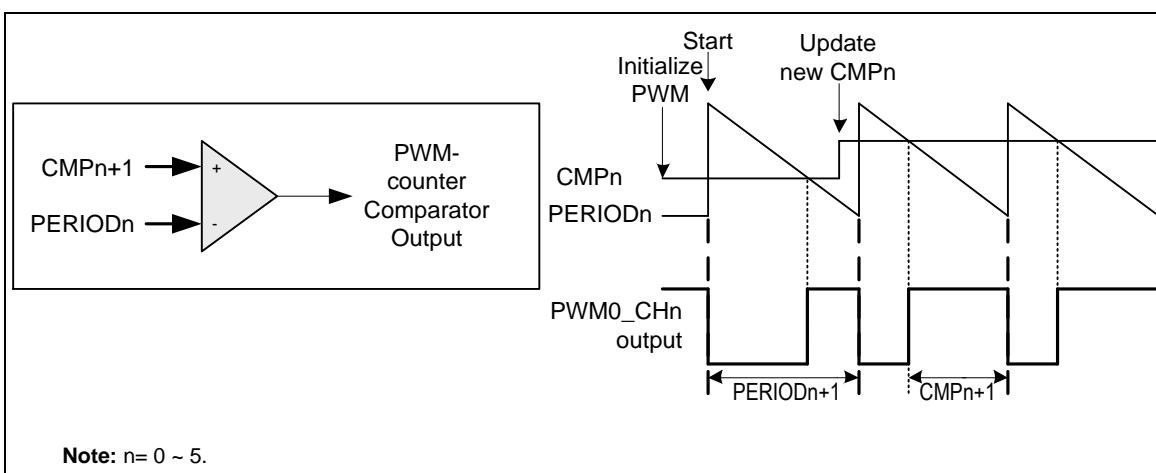

Figure 6.7-9 Legend of Internal Comparator Output of PWM Counter
6.7-10. The pulse width modulation follows the formula below and the legend of PWM counter Comparator is shown in Figure 6.7-9. Note that the corresponding GPIO pins must be configured as PWM function (enable PWM_POEN) for the corresponding PWM channel.